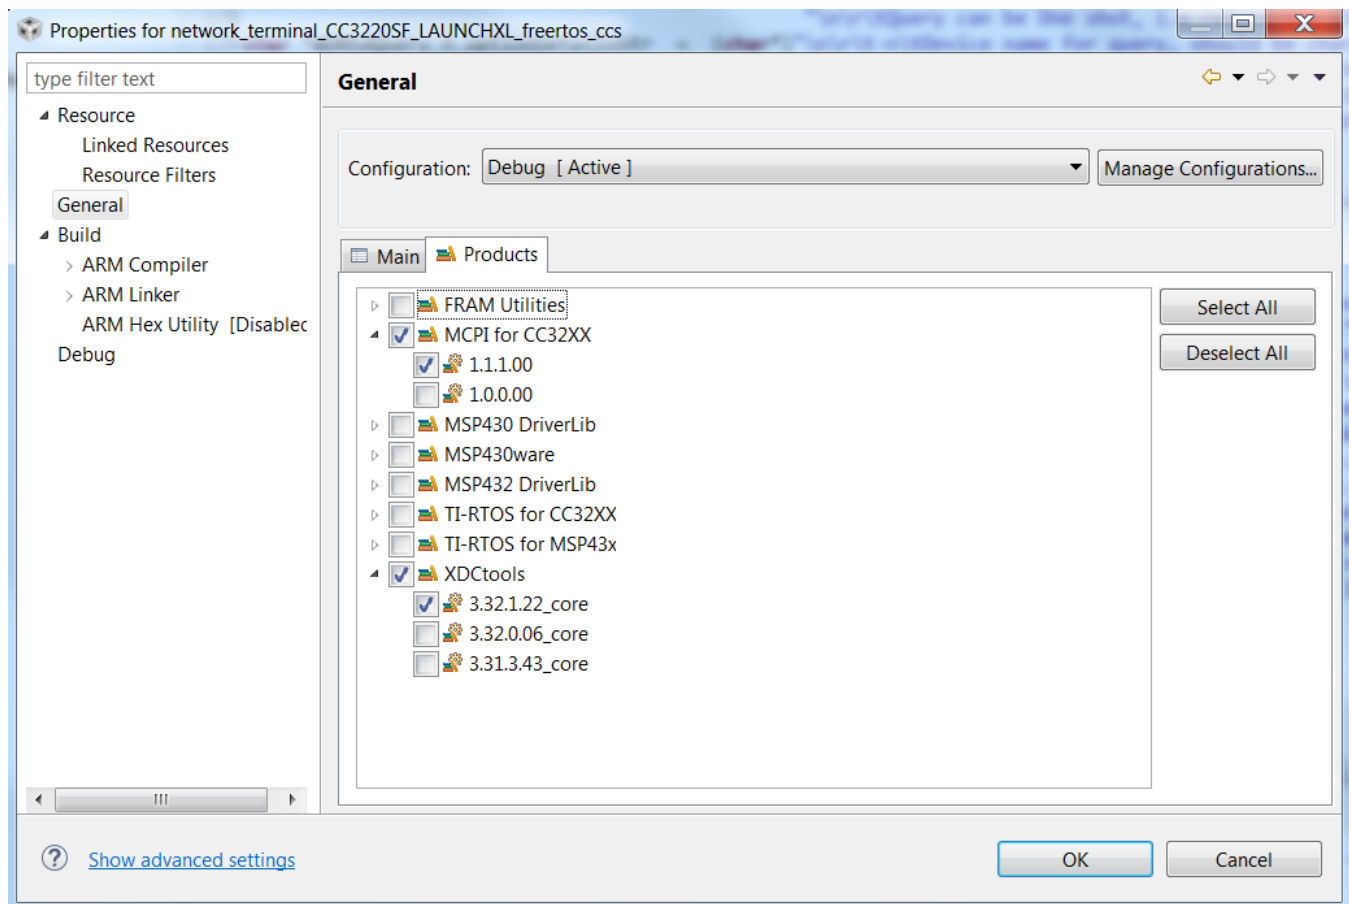

Figure 2-3. Select tirtos_config Project
5. Select the `tirtos_builds_CC3220SF_LAUNCHXL_custom_ccs` project in Project Explorer, and select Project → Properties from the menu. Under General, select the RTSC tab, as shown in Figure 2-3. Make sure the latest versions of XDCtools and MCPI for CC32XX solutions are selected. Verify the same is configured for `network_terminal_CC3220SF_LAUNCHXL_freertos_ccs`.